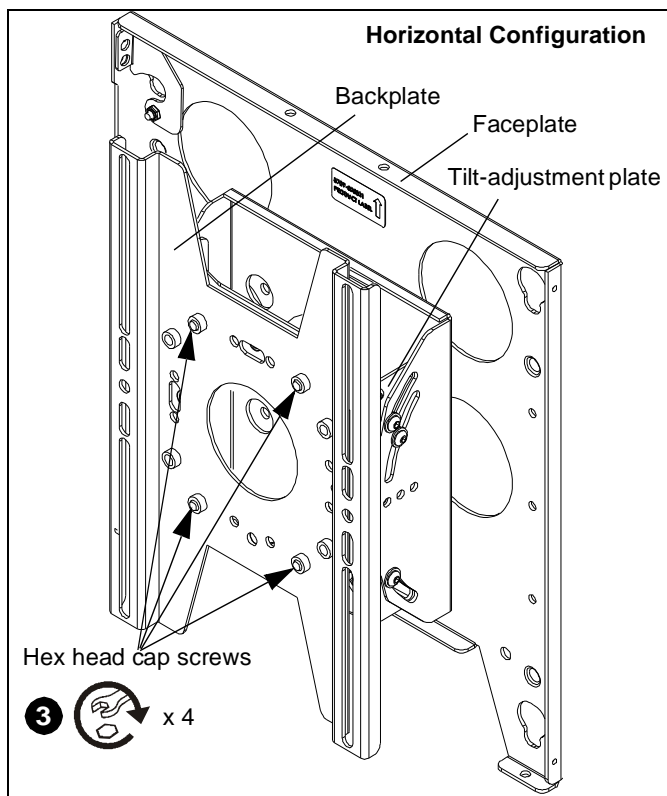

Figure 4
3. Re-attach backplate to tilt-adjustable plate/faceplate assembly using the four hex head cap screws (inserted from inside the tilt-adjustment plate). (See Figure 4)